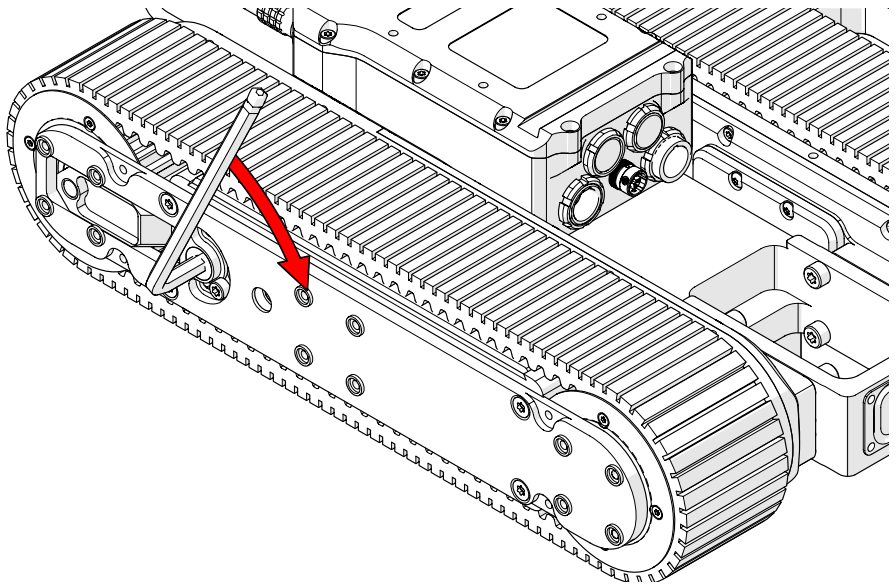

Fig. 61 - Tighten track with 6 mm hex tool
2. Using a 6 mm hex tool, tighten the belt gently until it is almost flat (*Fig. 61*).